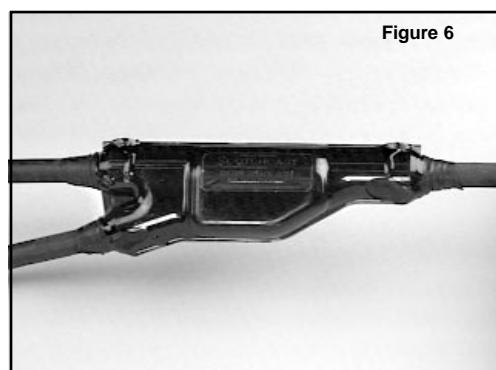

Figure 6
- 6.2 When resin has solidified and cooled, splice may be put into service. Clip off spouts if desired. See Figure 6.